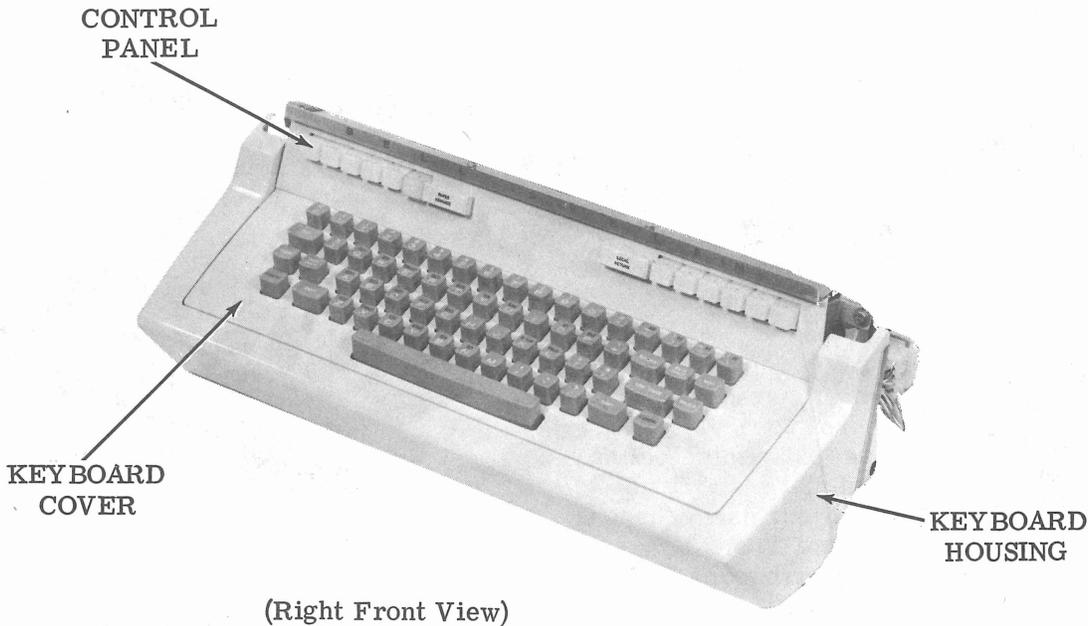

Figure 2 - 37 Keyboard Unit
2.01 To remove the control panel, remove the TP151630 screws from left and right sides and lift the panel out (Figures 2 and 4).
2.03 To remove the TP324035 keyboard housing, remove the two TP151631 screws (one on each side) and slide the keyboard housing forward (Figures 2 and 4).
2.06 To remove the keyboard from the base assembly, proceed as follows (Figures 2, 3, and 4):